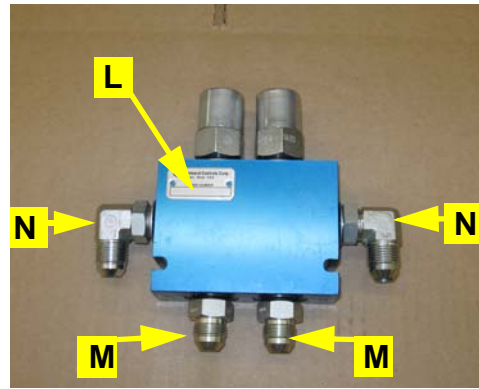

Figure 4a: Assembled counter balance valve
- a. Assemble the counter balance valve **L** with fittings **M** in the **C1** and **C2** ports and fittings **N** in the **V1** and **V2** ports (Figure 4a).